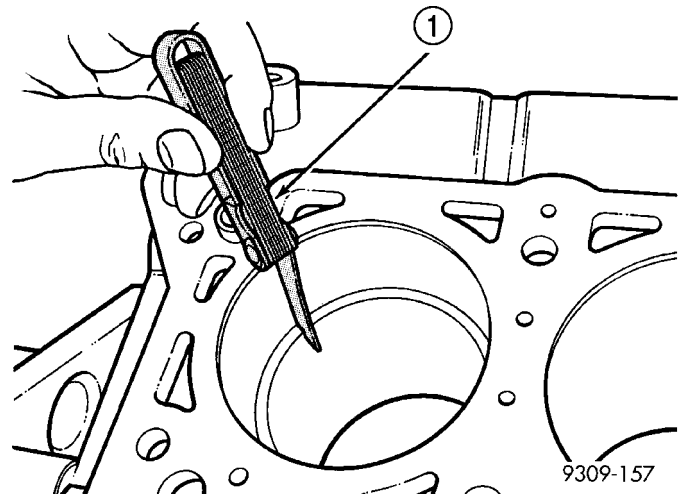

Fig. 79 Piston Ring Gap
(1) Wipe cylinder bore clean. Insert ring and push down with piston to ensure it is square in bore. The ring gap measurement must be made with the ring positioned below normal ring travel in the cylinder bore. Check gap with feeler gauge (Fig. 79). For piston ring specifications (Refer to 9 - ENGINE - SPECIFICATIONS).